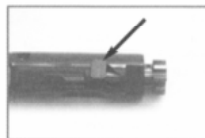

Fig. 36
10. Remove the Cam Pin (Fig. 36) and pull straight up and out of the bolt carrier (Fig. 37).